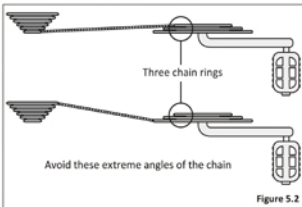

Figure 5.2
- For bicycles with 3 front chain rings; avoid "Cross Chaining", which is the position when the chain is in the smallest cog in the rear combined with the inner or smallest chain ring in the front, or the largest cog in the rear and the outer or largest chain ring in the front. These gear positions put the chain at the most extreme angle and can cause premature wear to the drivetrain. Bicycles with 3 front chain rings have enough gear "overlaps" that these gears are not needed. **Figure 5.2**